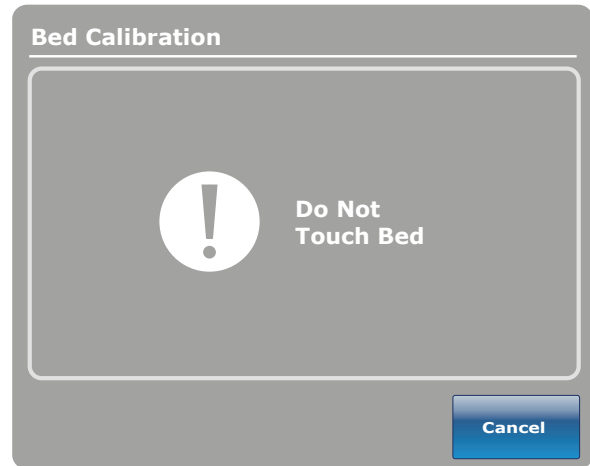

Figure 15: Do Not Touch Bed Screen
16. The “Do Not Touch Bed” screen will appear as shown in Figure 15.